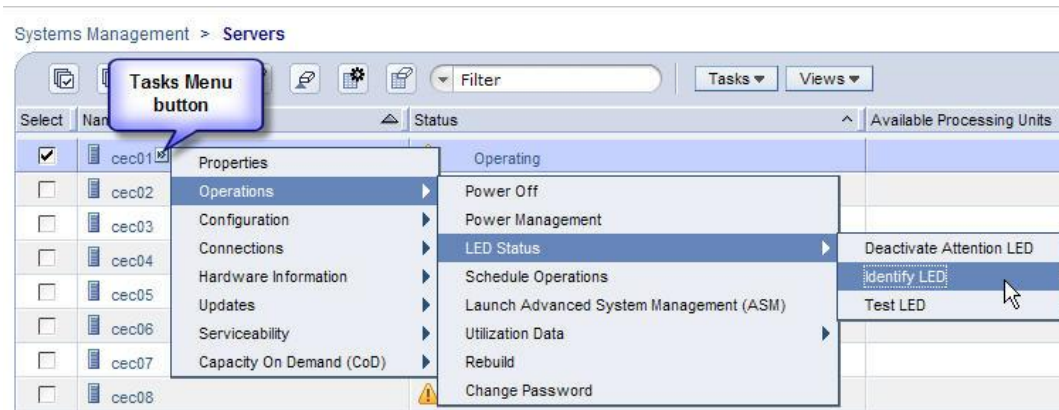

Figure 2 HMC Systems Management
- STEP 4 From the **Tasks** menu *select* **Operations -> LED Status -> Identify LED** (see Figure 2 HMC Systems Management).